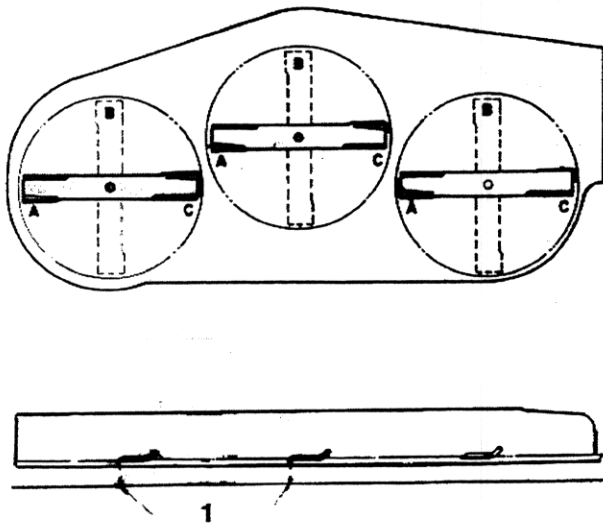
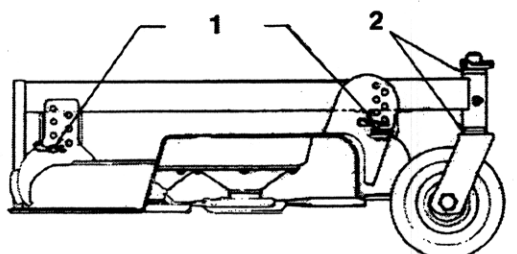

Figure 8
Figure 9
1. Check to make sure the front height-of-cut pins are resting properly on the frame cushions (Fig. 9).
2. Raise height-of-cut to the 3 1/2" (89 mm) or 4 in. (102 mm) position (Fig. 9).
4. Position all three blades in the "A" position (Fig. 8) and measure from the level surface to the bottom of the tip end of each blade (Fig. 8).
5. Note the measurement attained at "A". Rotate blades to the "B" position (Fig. 8), and measure the distance of all blades to level surface. Note the dimensions (Fig. 9).
6. Rotate the blades to the "C" position, measure and note the distance measured (Fig. 8, 9).
A. Cutting units that are usually operated at 1 to 2 in. (25 to 51 mm) height of cut should have the low side of the cutting unit raised. Remove the lynch pin securing the castor wheel on low end (Fig. 9) and remove the castor assembly.
- B. Transfer one thrust washer from the top side of the castor shaft to the lower side, install the castor assembly and compare the blade height of all blades; refer to items 3 through 7. Continue adding thrust washers if height still does not meet requirements.
- C. If the cutting unit is operated at 2 to 4 in. (51 to 102 mm) height of cut, lower the high side of cutting unit. Remove the lynch pin of the castor at the high end of the unit and remove the castor assembly (Fig. 9)
- D. Transfer one thrust washer from the lower side of the castor shaft to the top side, install the assembly and compare blade height of all blades; refer to items 3 through 7. Repeat the procedure if height still does not meet requirements.